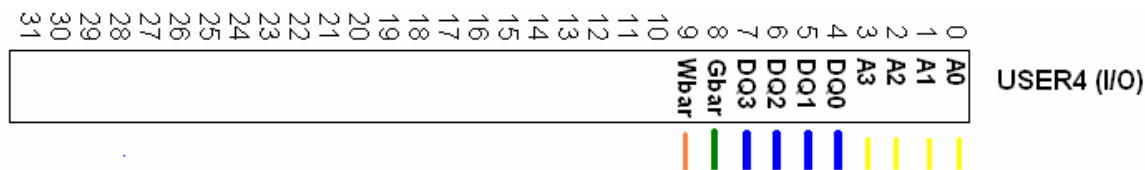

Figure 2: User I/O wiring diagram
- 3) To connect to the user I/O, wire the 6264 chip to the user4 row located directly above the right side of the breadboard as shown in Figure 2.